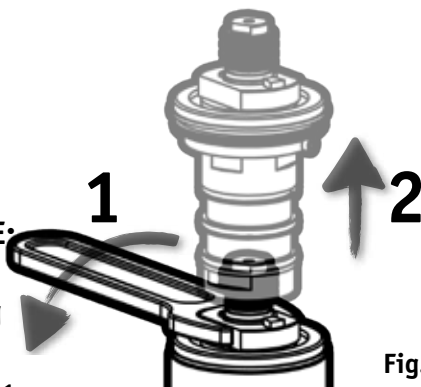

Fig. 24
8) Unscrew the **CARTRIDGE FLANGE 17** using 30mm SPANNER and remove it along with the **CARTRIDGE 15** (**Fig. 24**)